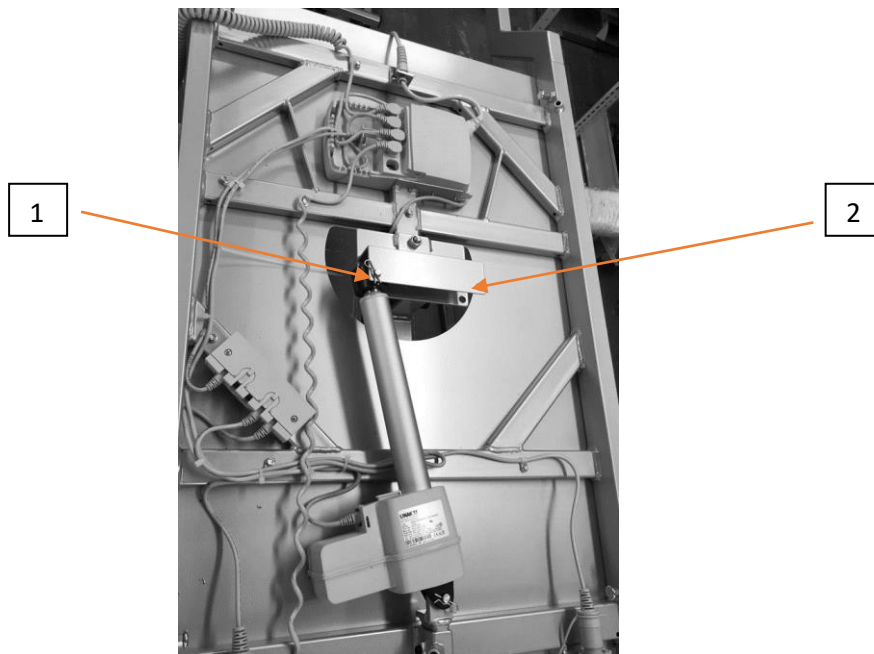

Figure 10: Changing the direction of rotation
Loosen the pin of the bolt (1) to be able to adjust the rotator. Remove the pin from the hole so that the rotary motor is exposed. The pin is very tight so that there is as little play as possible. Now move the rotary motor to position (2) and mount the bolt again. Do not forget the pin to secure the bolt. With the adjustment of the rotary motor, the direction of rotation has been adjusted. Now pay attention to the cable routing of the cable that connects the base frame with the turnstile on the upper side. This must be placed on the opposite side. (cf. Figure 10)